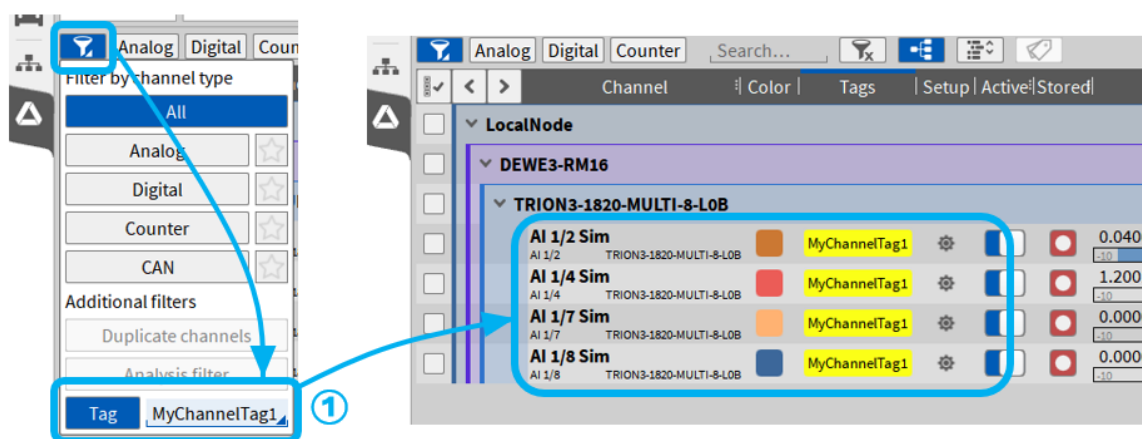

Fig. 7.14: Channel Tags in filter options
When at least one channel Tag has been defined an additional option for the channel Tags will be listed in the filter option section of the OXYGEN channel list (see ① in Fig. 7.14). After selecting a Tag, only those channels will be listed in the OXYGEN channel list, which are assigned to the respective Tag.